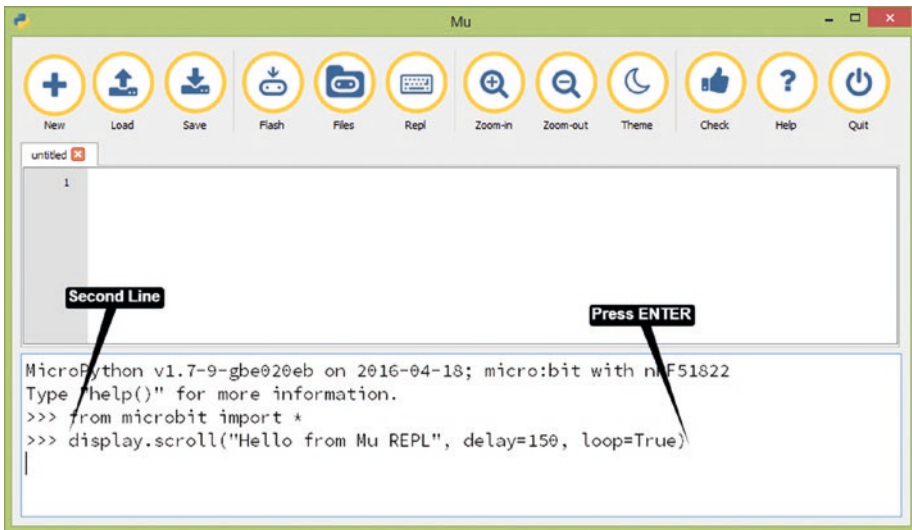

Figure 1-33. Writing on the interactive shell
4. Then type the second line, `display.scroll("Hello from Mu REPL", delay=150, loop=True)`, and press Enter again (see Figure 1-33).